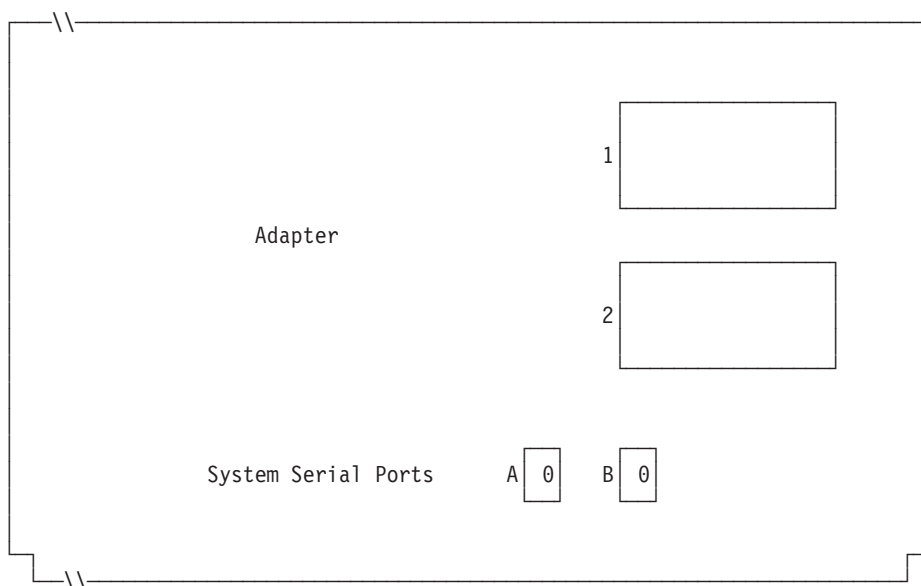

Figure 129. Right Side of Rear of 4694-3x7 Point-of-Sale Terminal
6. If an asynchronous port is used by terminal applications, write the port number on Figure 129. Use a 0 if a port is not used by the terminal. Valid port numbers are 1, 2, 3, 4.